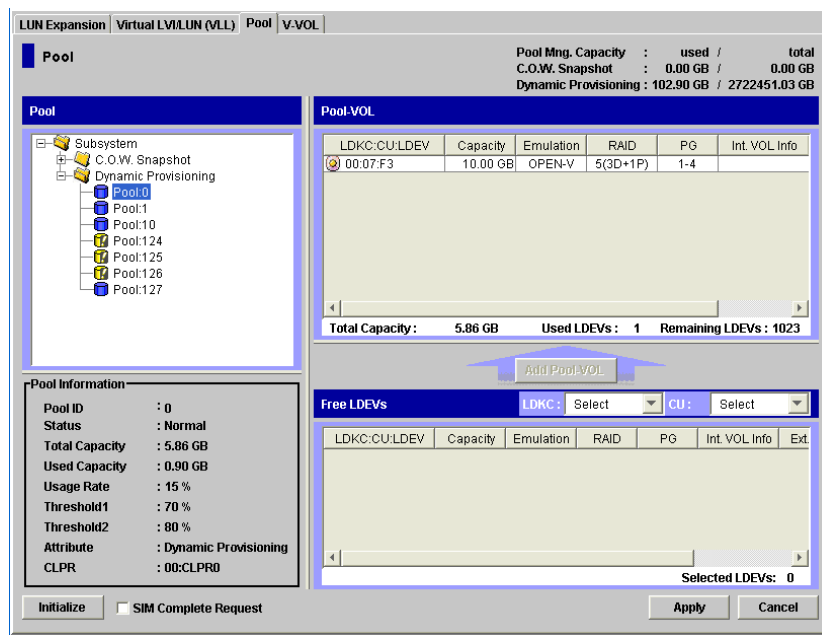

Figure 5-3 Pool Window
3. Additional Dynamic Provisioning information is available using Go > LUN Expansion/VLL > Pool (See Figure 5-3).
1. Access the Pool window (see Figure 5-3) by selecting **Go → LUN Expansion/VLL → Pool**.
1. Access the **Pool** window (see Figure 5-3) by selecting **Go → LUN Expansion/VLL → Pool**.